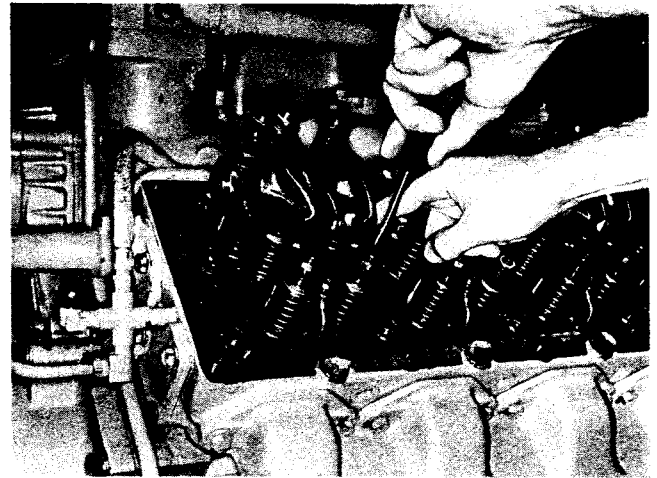

Fig. 2-33, (V11915). Adjusting crossheads
3. Turn down crosshead adjusting screw until it touches valve stem. Fig. 2-33.